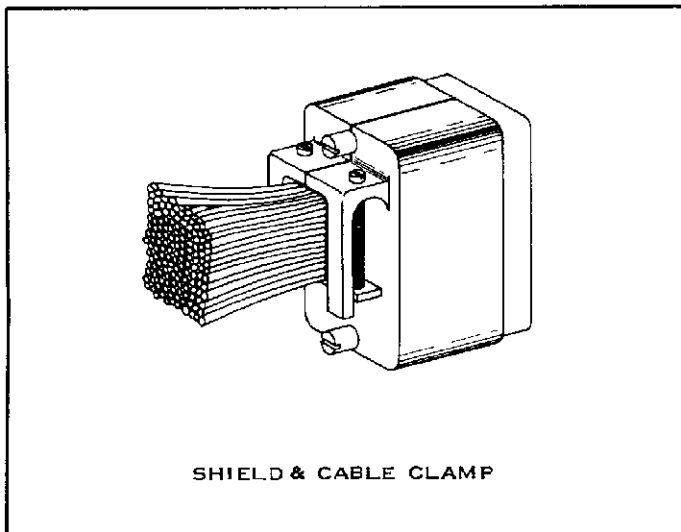

FIGURE 6
5.2. SHIELD AND CABLE CLAMPS (SHIELDS) protect the wires where they protrude from the rear of the Connector Block, and they relieve the strain on Contacts caused by free-hanging wires. Four two-piece Shields for use with Female Blocks are available. See Figure 6. These Shields should be attached to Blocks, using either guide pins and sockets or machine screws.